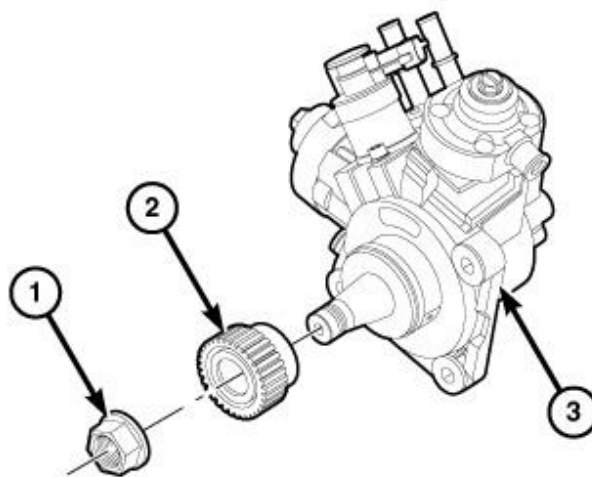

Figure 74 - Gear Removal and Installation
NOTE: The use of Puller 1023 or a commercially available gear puller is required to remove the fuel injection pump gear (2) (Figure 74).
12. Install the gear (2) and **NEW** nut (1) onto the **NEW** fuel injection pump (3) and tighten the nut (1) finger tight (Figure 74).